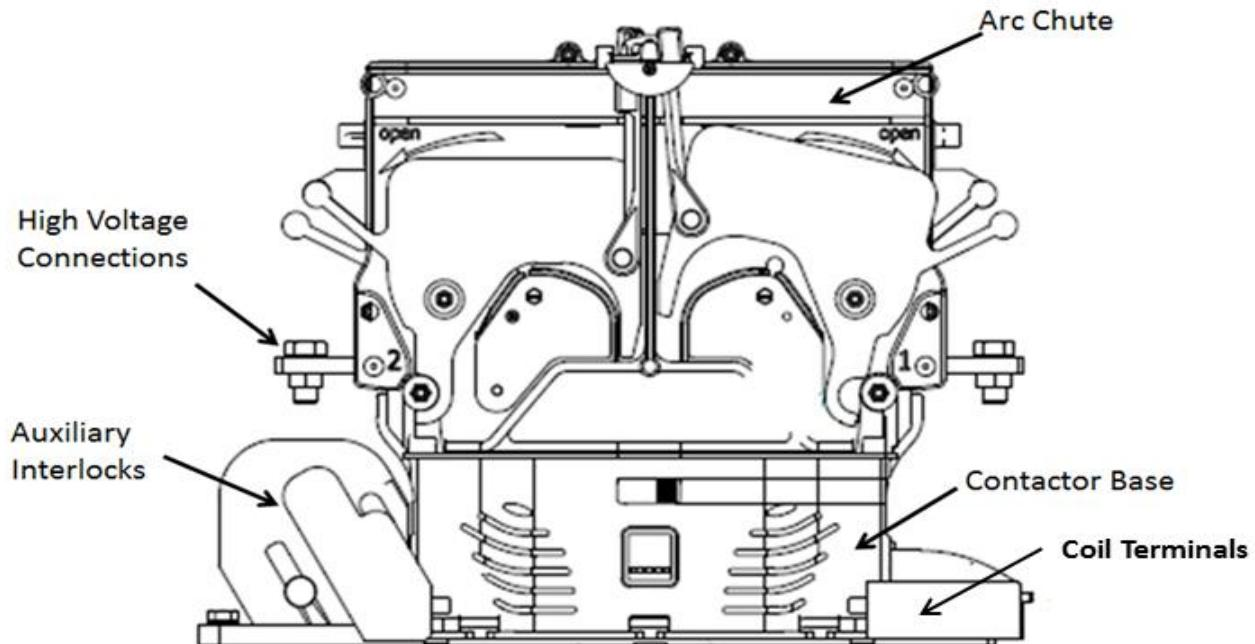

Figure 2-8: Line Switch Contactor
The Line Switch contactor (LS), as seen in Figure 2-8, is used to connect / disconnect the catenary supply from the propulsion system. After the pantograph, the power first goes through the HSCB, then the Knife Switch, and then the Line Switch contactor located in each propulsion equipment case. The HSCB provides overcurrent protection to the propulsion system. The Line Switch contactor is rated for 450 amps continuous current and 1200 Vdc continuous operating voltage. The maximum current breaking capacity is 2500 amps for 1 msec and 1200 amps for 15 msec.